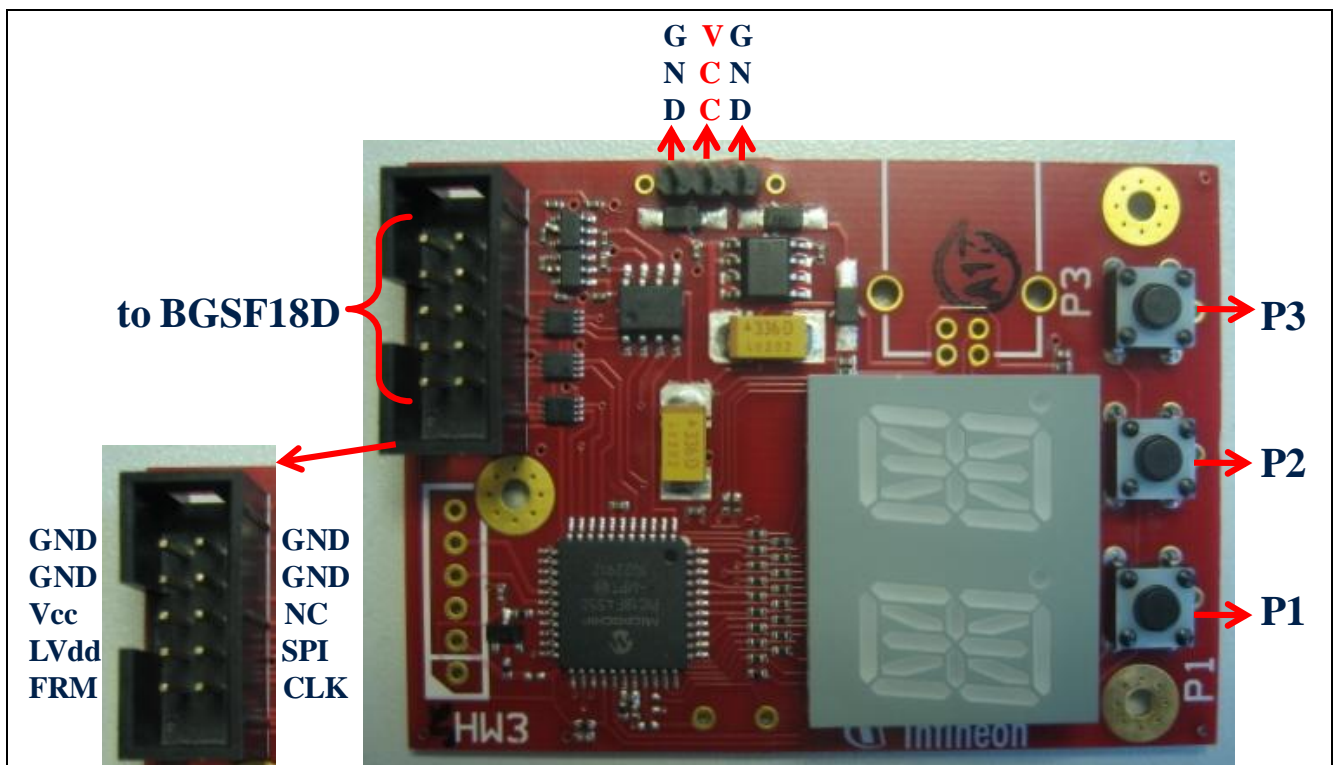

Figure 8 Switch Controller Unit Board
This section helps as a short user guide for the controller unit shown in Figure 8. The controller unit requires a DC supply of 5.5V with a current capability of 50mA.
3. **Step3:** Connect the control unit to the switch with an appropriate cable according to the connector pinout shown in Figure 8.